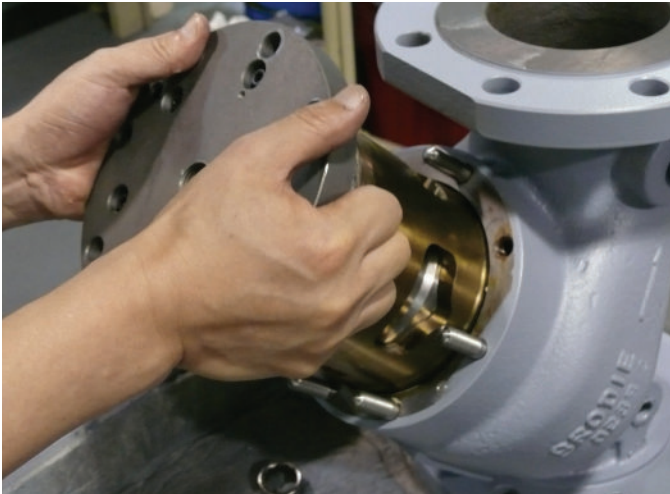

Figure 9-2 Remove Cylinder Assembly From Valve Body
- Using both hands pull the cylinder assembly straight out along its axis. Completely remove the two jack screws. (Figure 9-2)
3. Using both hands pull the cylinder assembly straight out along its axis. Completely remove the two jack screws. (Figure 9-2)